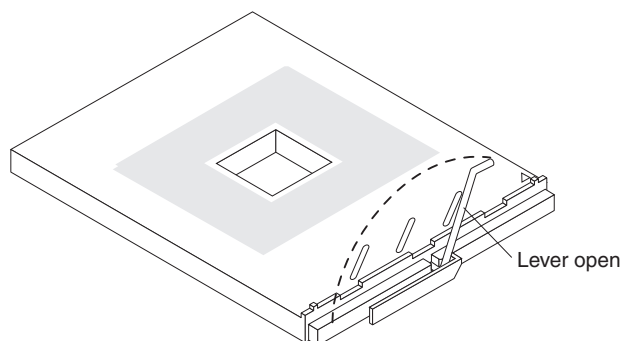

Figure 67. Microprocessor locking lever fully open
**Attention:** You must ensure that the locking lever on the microprocessor socket is in the fully open position before you insert the microprocessor in the socket. Failure to do so might result in permanent damage to the microprocessor, microprocessor socket, and system board. See Figure 67 on page 118.